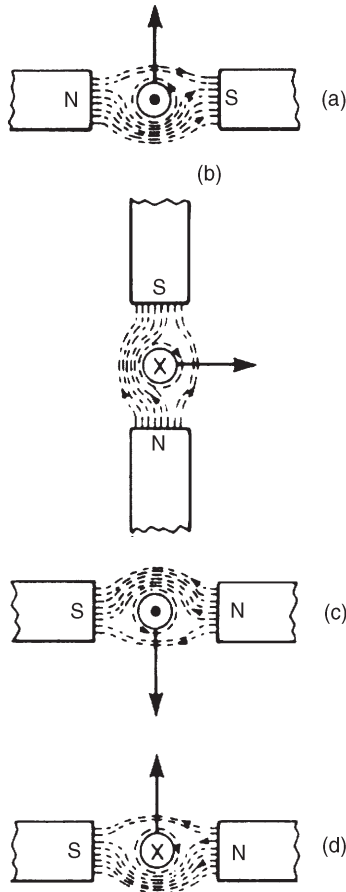

Figure 8.16
- The direction of the main magnetic field is from north to south, i.e. left to right. The current is flowing towards the viewer, and using the screw rule, the direction of the field is anticlockwise. Hence either by Fleming's left-hand rule, or by sketching the interacting magnetic field as shown in Figure 8.16(a), the direction of the force on the conductor is seen to be upward.
- Using a similar method to part (a) it is seen that the force on the conductor is to the right—see Figure 8.16(b).
- Using Fleming's left-hand rule, or by sketching as in Figure 8.16(c), it is seen that the current is toward the viewer, i.e. out of the paper.
- Similar to part (c), the polarity of the magnetic system is as shown in Figure 8.16(d).